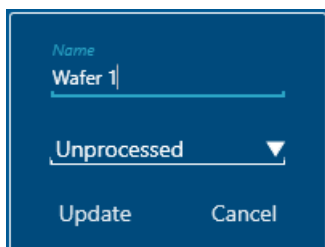

Figure 4-8 Wafer Name panel
- b) Click on the  icon to open the wafer name panel, see Figure 4-8.